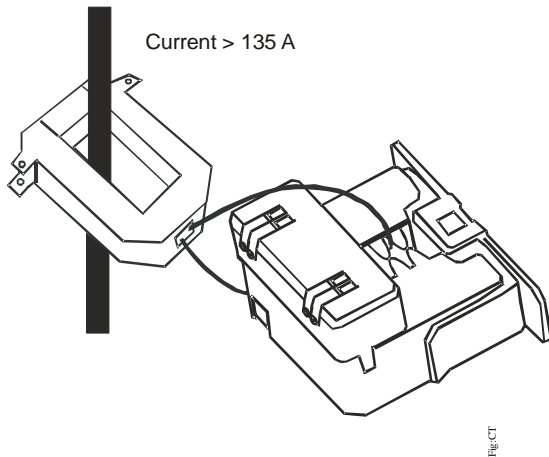

Figure 4: CSD with CT Transformer
Use a 5 A Current Transformer (CT) to reduce the current passing through the CSD (see Figure 4). Run the current transformer secondary wire through the sensing hole. Terminate the two secondary wires of the 5 A current transformer to each other, and then install the 5 A current transformer on the monitored conductor.